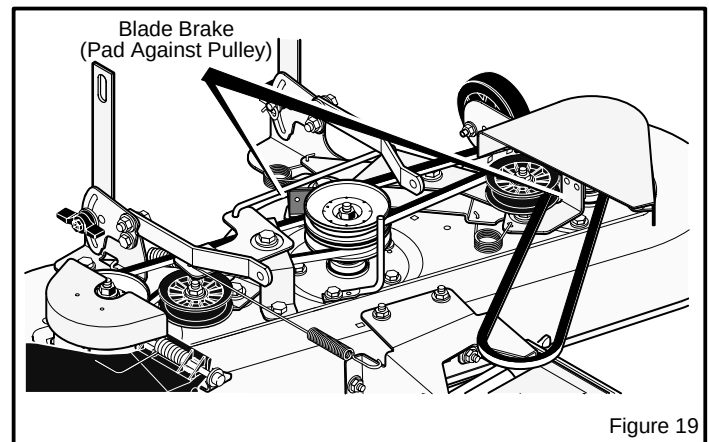

Figure 19
8. Move the **blade rotation control** to the **DISENGAGE** position. **Stop the engine.** Disconnect the wire from the spark plug. Check the operation of the **blade brake**. Rotate the pulleys with your hand. Make sure the **brake pads** are pressed tightly against the pulleys (Figure 19).